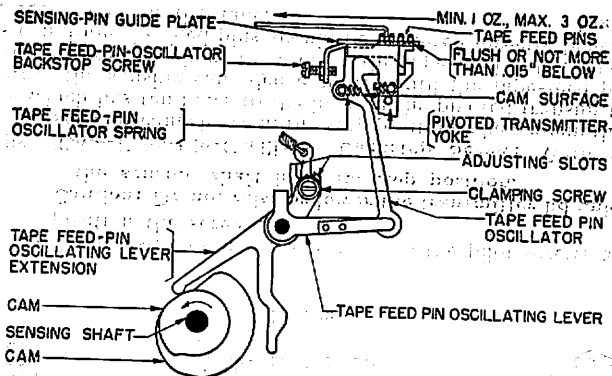

Fig. 50
2.98 **Tape-Feed-Pin-Oscillator Backstop Screw:** With the sensing-cam sleeve in the stop position, place a length of tape, which has ten holes to the inch, in the pivoted transmitter. Operate the sensing-cam sleeve slowly until the tape-feed pins leave and are just about to re-enter the tape-feed holes. Under this condition the feed pins should be centered directly beneath the feed holes in the tape. **Fig. 50**
(a) The top surface of the tape feed-pin oscillator in which the tape feed-pins mount should rise to a point flush with or not more than .015" below the lower surface of the tape guide channel in the sensing-pin guide plate at any point during the feeding motion from right to left, when the cam-follower tip of the tape feed-pin oscillating-lever extension is riding firmly on the low part of its cam. **Fig. 50**
(1) To adjust, loosen the tape feed-pin oscillating-lever extension clamping screw and position the lever by means of the adjusting slots.
**2.108 Tape Feed-Pin Oscillator Spring:** It should require Min. 1 oz., Max. 3 oz. to start the tape feed-pin oscillator moving. **Fig. 50**